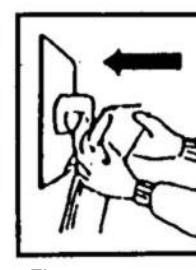

Fig. 6
- Remove the old dust bag by holding the cardboard tab and pull towards you. Remove carefully to avoid dust/dirt spilling from dust bag. (Fig. 5 & Fig. 6)